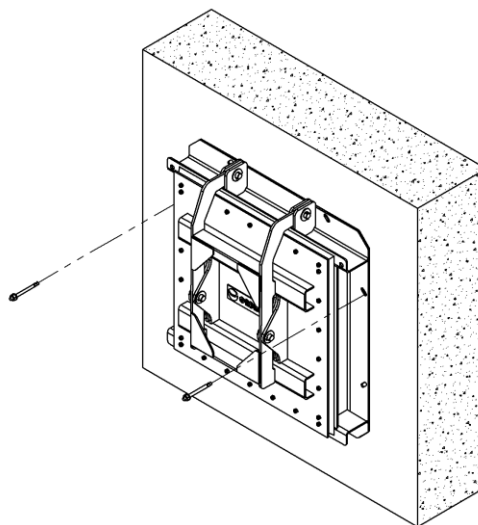

Figure 1
- Drill and install an anchor bolt on each side of the flap gate. After installing the first anchor bolt, and prior to drilling the hole on the other side, make sure the frame is perfectly leveled (see Figure 1)